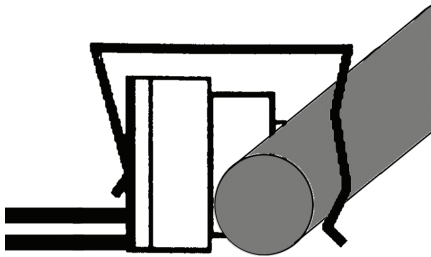

FIG. 3
- 2 The aquastat control is a surface temperature sensing device that must be in contact with the system piping to operate properly. Separate models include clip-on mounts for 3/4" (7/8" o.d.) and 1/2" (5/8" o.d.) copper tubing. (See FIG. 3)